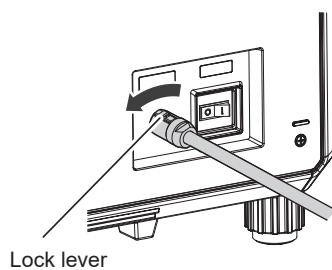

Fig. 1
- 2) Turn the power cord connector counterclockwise while sliding the lock lever toward you (Fig. 1), and remove the connector from the <AC IN> terminal on the projector (Fig. 2).